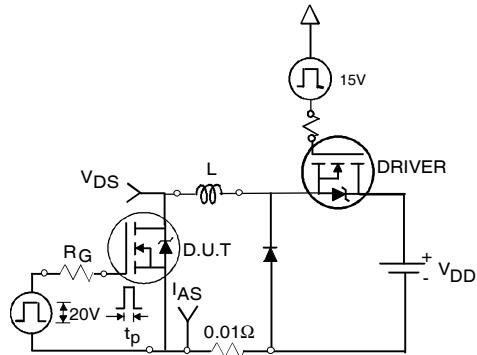

Fig 12a. Unclamped Inductive Test Circuit
- ④ Pulse width $\leq 400\mu\text{s}$; duty cycle $\leq 2\%$.
- ⑤ $C_{oss\ eff.}$ is a fixed capacitance that gives the same charging time as C_{oss} while V_{DS} is rising from 0 to 80% V_{DSS} .
- ⑥ Calculated continuous current based on maximum allowable junction temperature. Package limitation current is 75A.
- ⑦ Limited by $T_{J\max}$, see Fig.12a, 12b, 15, 16 for typical repetitive avalanche performance.
3. Equation below based on circuit and waveforms shown in Figures 12a, 12b.